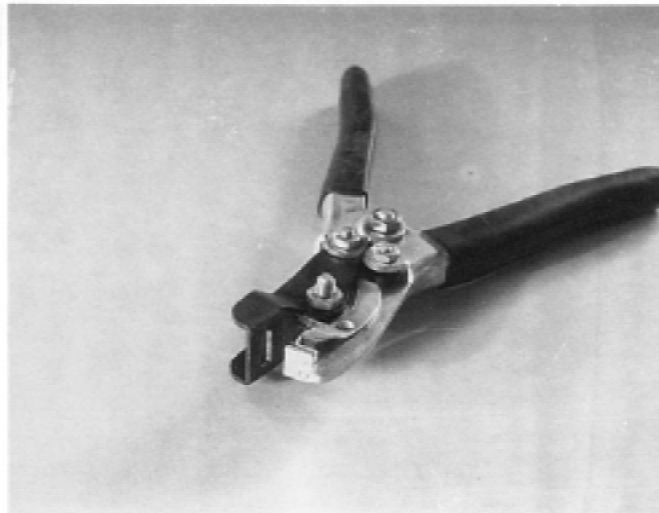

FIG. 3 Nailslot Punch
3.2.9 *nailslot punch*—a special hand tool used to create slots for attachment of field-modified siding or accessories. (See Fig. 3.)